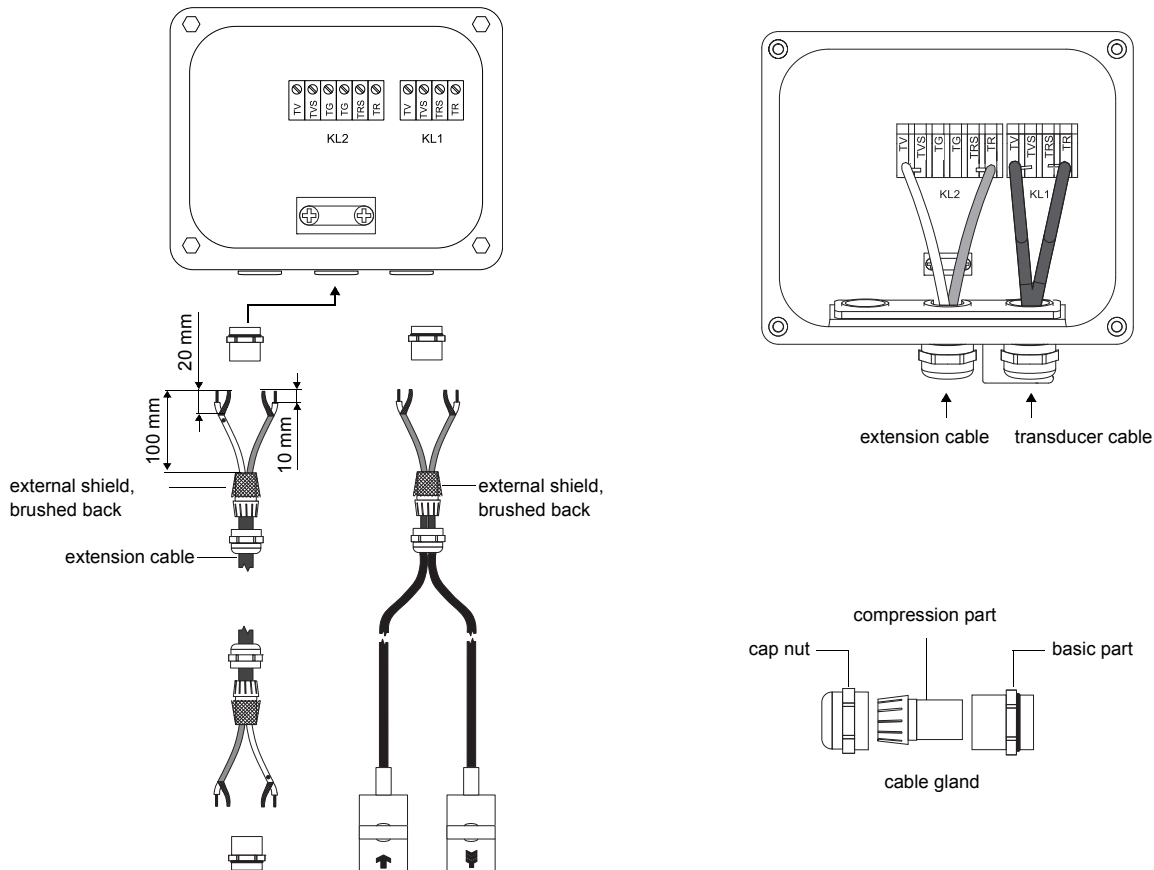
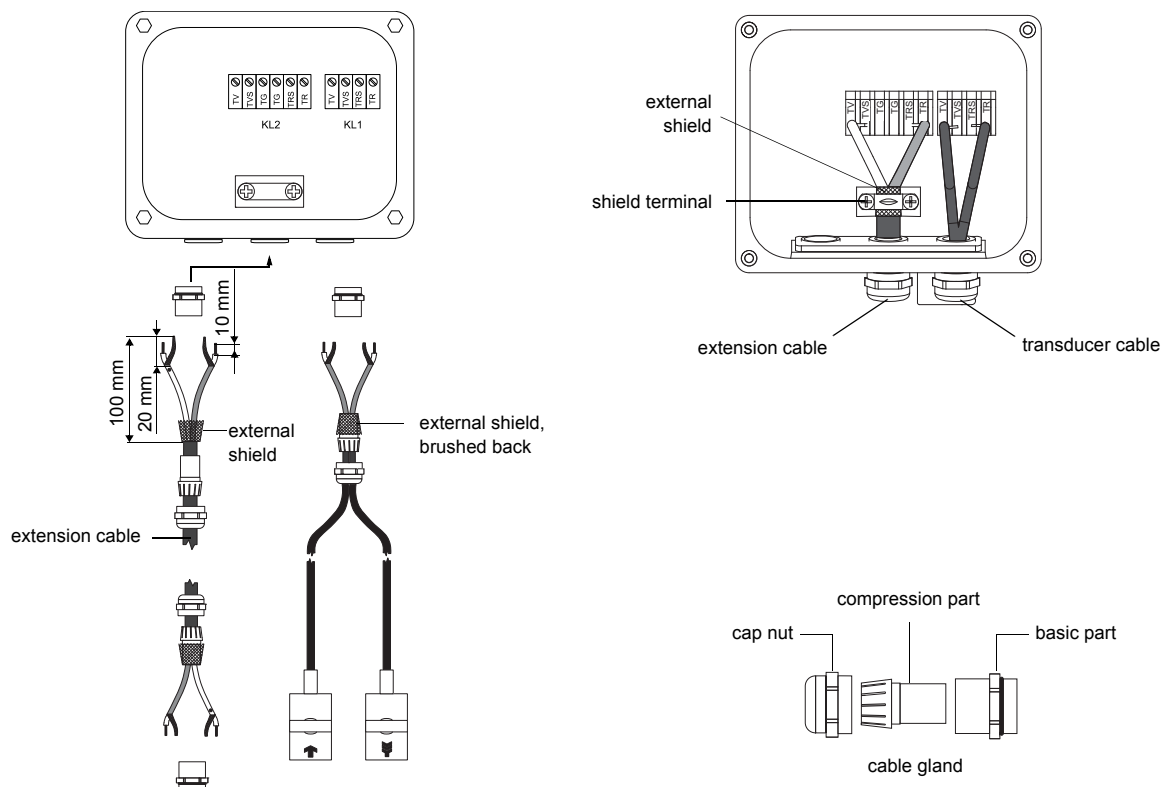

Fig. 6.8: Connection of the extension cable and the transducer cable to the junction box JBP3
Fig. 6.9: Connection of the extension cable and the transducer cable to the junction box JBP3
- Remove the blind plug for the connection of the extension cable (see Fig. 6.8).
- Connect the extension cable to the terminals of the transmitter (see Fig. 6.8 and Tab. 6.3).
- Remove the blind plug for the connection of the extension cable (see Fig. 6.9).
- Pull the extension cable back until the brushed back external shield is below the shield terminal (see Fig. 6.9). The extension cable must remain completely insulated up to the shield terminal.
- Connect the extension cable to the terminals of the transmitter (see Fig. 6.9 and Tab. 6.3).
- Connect the leads to the terminals of the junction box (see Fig. 6.8 or Fig. 6.9 and Tab. 6.5).